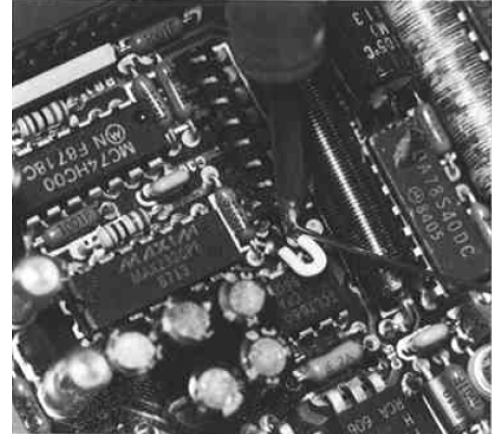

Figure E-2. Location of the jumper wire
Step 3. Solder a jumper wire between the two pads marked by an arrow directly to the left of the trace that was cut through in step 2 (fig. E-2).